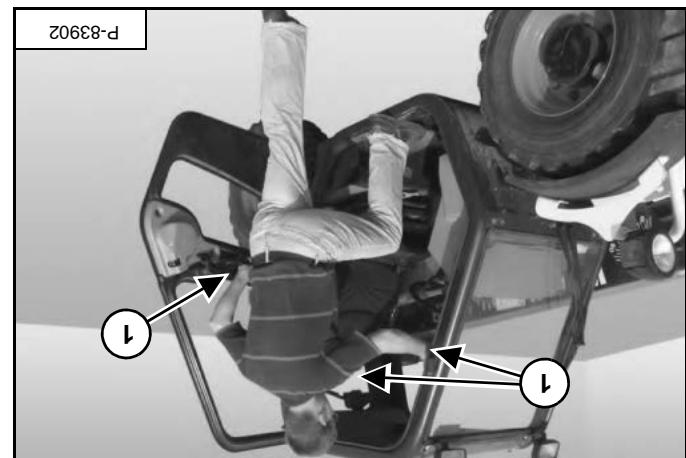

Figure 49
Use the hand grabs (item 1) [Figure 49] to enter the operator cab.